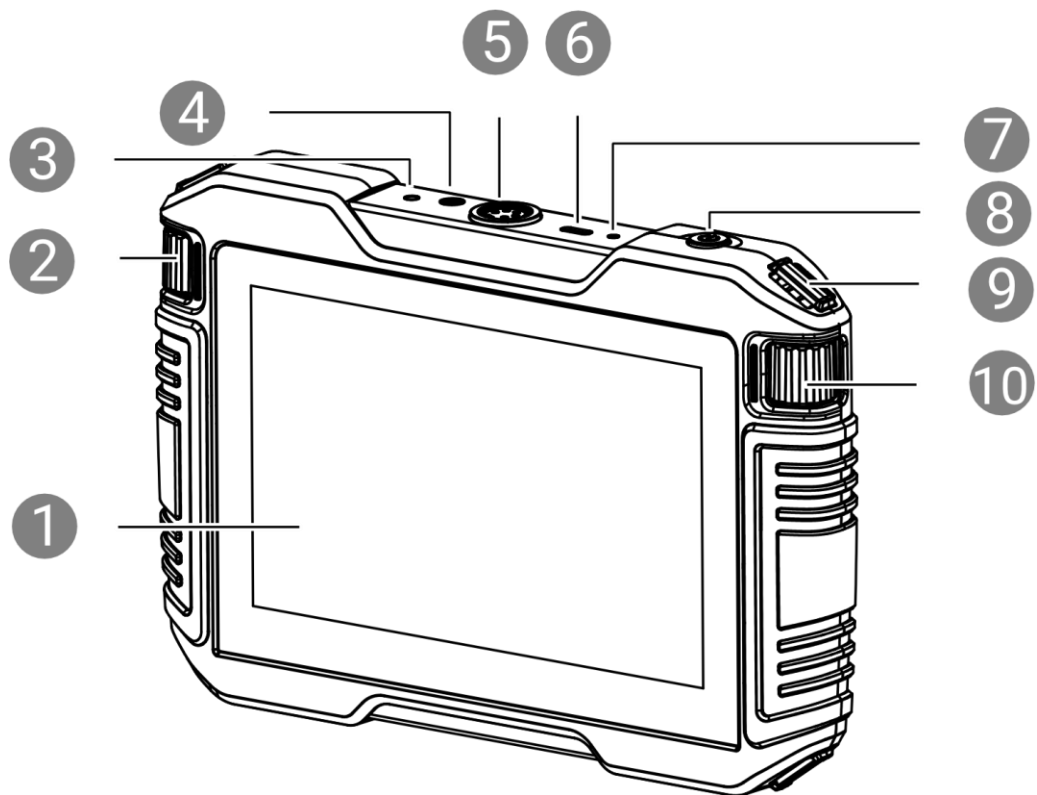

Figure 1-1 Device Main Body
2. Adjust the frequency range by the scrolling the frequency wheel (No.10 in Figure 1-1)